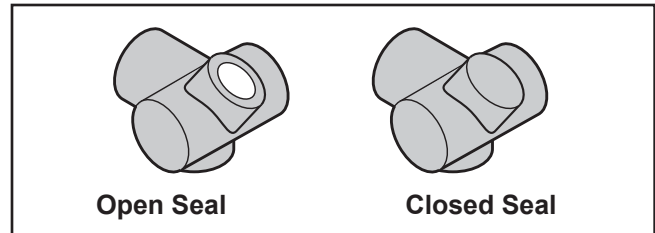
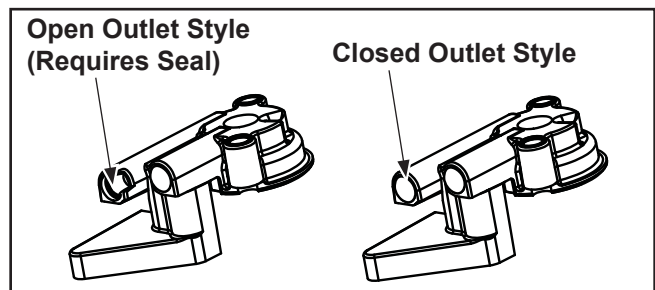
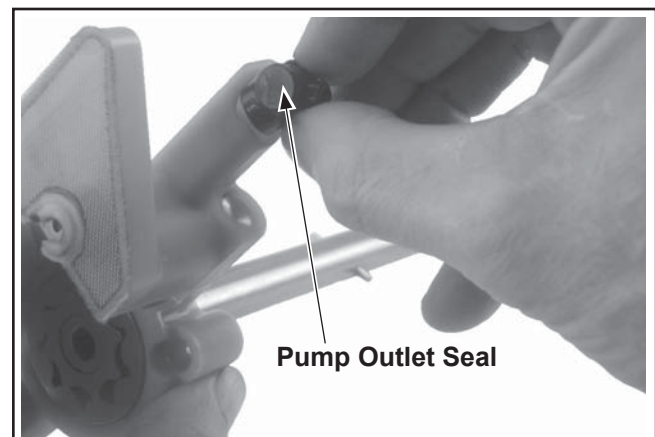

Figure 10-8. Pump Outlet Seals.
Figure 10-9. Oil Pump Outlet Styles.
Figure 10-10. Installing Oil Pump Outlet Seal.
4. Determine if the outlet of the oil pump is **open** or **closed**. See Figure 10-9. The **open** style pumps require the use of a rubber seal between the pump outlet and lower main bearing area. See Figure 10-8. Some models use an **open** style seal with an internal passage to feed oil to the lower bearing. Some models use a **closed** seal without an oil passage, and the crankshaft is crossed-
drilled for lower bearing lubrication. Both styles of outlet seals are shown in Figure 10-9. If a new seal is to be ordered, be sure it is the same style as the one that was taken out. Lightly lubricate the ends of the oil pump outlet seal with oil and install in into the outlet of the oil pump. See Figure 10-10.